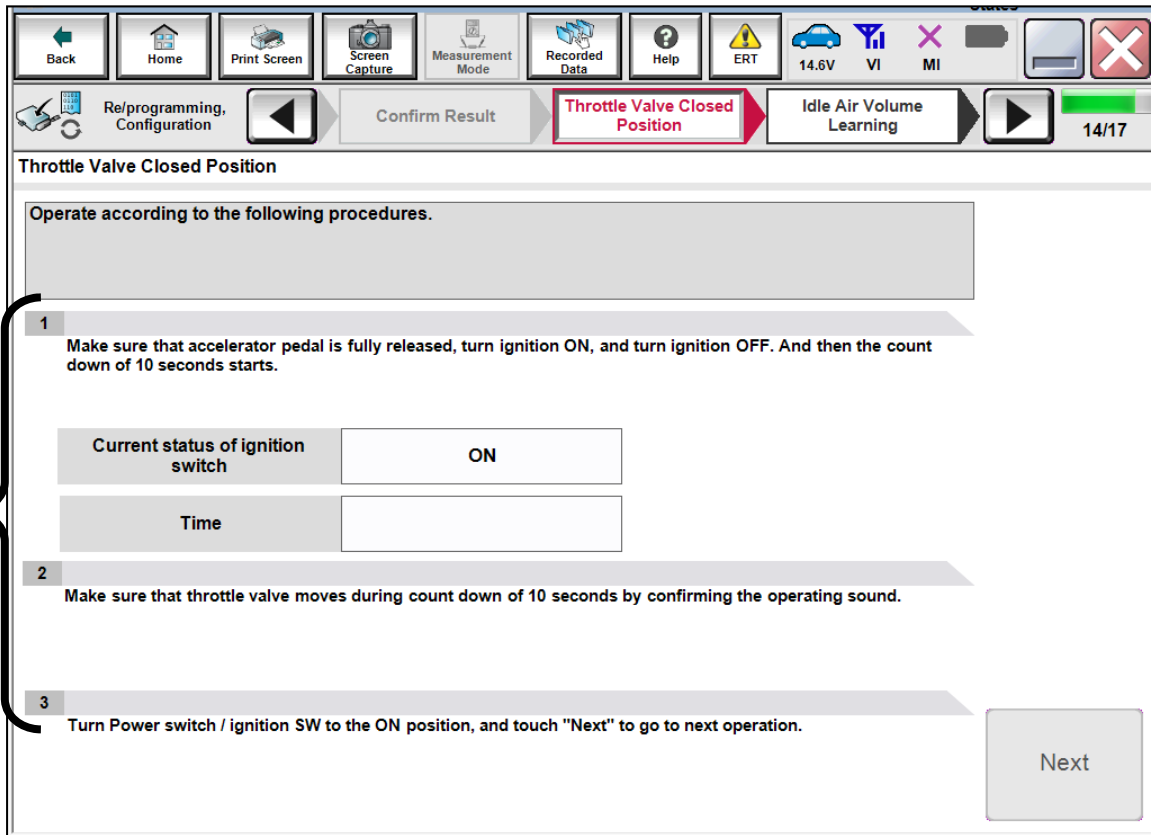

Figure 22
- Follow the on-screen instructions (Figure 22, steps 1, 2, and 3) to complete the procedure.